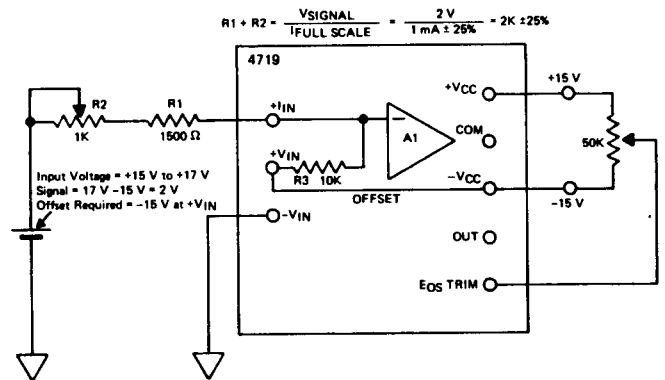

Figure 6B. V to F With -15 V Offset Allows Operation With Small (2 V) Signal Impressed on Larger DC Voltage (+15 V)
**Operation With Non-Zero Based Signals (Figure 6B)**
When the signal of interest is a small changing voltage impressed on a fixed DC voltage, the +Vin pin is offset to eliminate the fixed voltage while the signal is applied to the +Iin pin to provide a scale factor increase. For example, in Figure 6B a 2 V signal is impressed on a fixed +15 V. The +15 V is offset to zero by summing it through R1 and R2 at the op amp +Iin pin with -15 V from -VCC through the 10 K +Vin input resistor, R1 and R2 reduce the scale factor so the 2 volt signal provides a full 1 MHz out from the 4719. The 50 K offset trim pot is used to set the minimum fout, while R1 sets maximum fout.